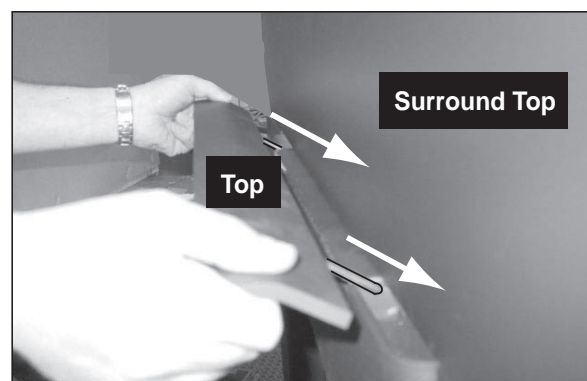

Figure 42.4
1. Push the top into place by aligning the pins into the slots. **Figure 42.4.**